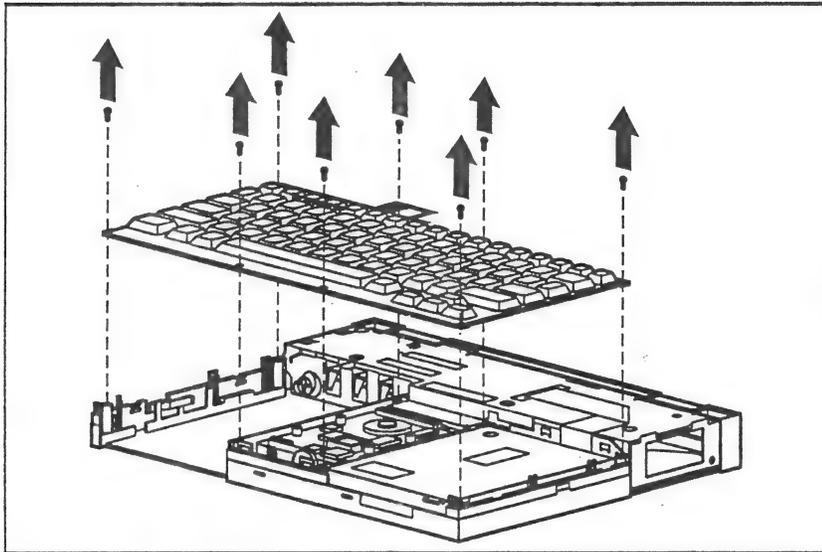

Figure 2-45. Removing the Keyboard Screws
3. Using a Torx T-8 screwdriver, remove the eight screws that secure the keyboard in place (Figure 2-45).
4. Carefully lift the keyboard out of the computer (Figure 2-45).